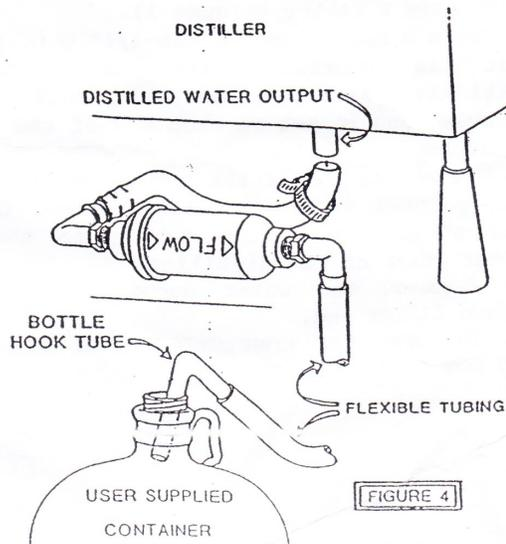

FIGURE 4
2. Connect the flexible tubing provided with the PST 6 filter to the fully barbed fitting and then connect the other end of the tubing to the distilled water output of the distiller. The flexible tubing with the bottle hook that is provided with the distiller should be attached to the partially barbed fitting on the output end of the filter (FLOW arrow should point to this fitting as shown in Figure 4).